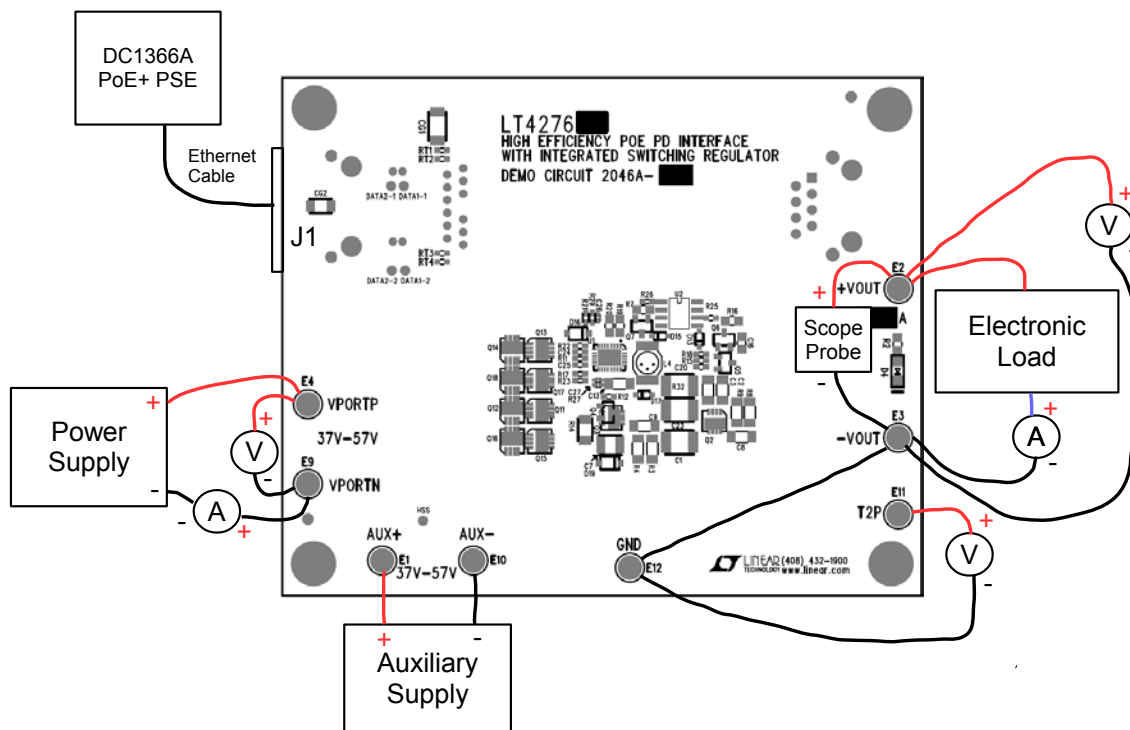

Figure 8. Proper Measurement Equipment Setup
Demonstration circuit 2046A-C is easy to set up to evaluate the performance of the LT4276 in a PoE+ application. Refer to Figure 8 for proper equipment setup and follow the procedure below:
1. Place test equipment (voltmeter, ammeter, power supplies, and electronic load) as shown in Figure 8.
- a. Connect a PoE+ capable PSE with a CAT-5 cable to the RJ45 connector, J1. See Figure 8.
- b. Or, connect a 37V to 57V capable power supply (Power Supply in Figure 8) across  $V_{PORTP}$  and  $V_{PORTN}$ .
- c. If evaluating the auxiliary power supply (Auxiliary Supply in Figure 8), connect a 37V to 57V capable power supply across  $AUX+$  to  $AUX-$ .